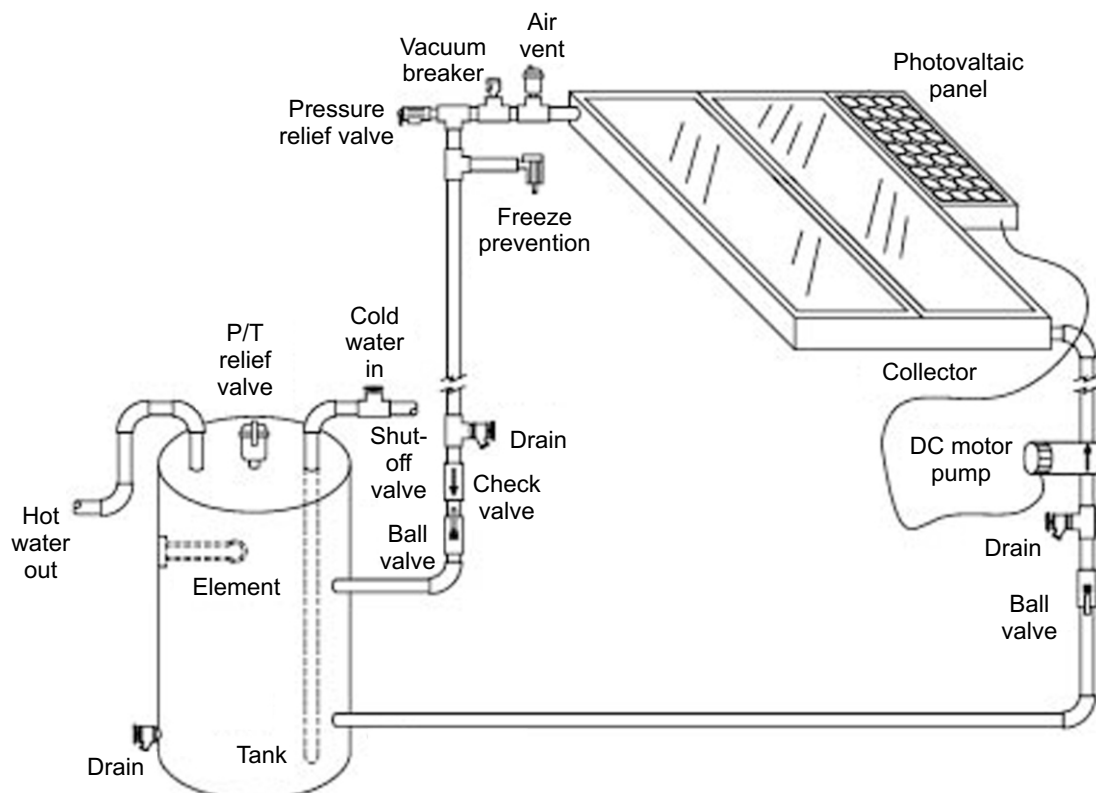

Fig. 2- Direct system with photovoltaic-powered pump
The system shown in Figure 2 differs from other direct-pumped systems in that the energy to power the pump is provided by a photovoltaic (PV) panel. The PV panel converts sunlight into electricity, which in turn drives the direct current (DC) pump. In this way, water flows through the collector only when the sun is shining.